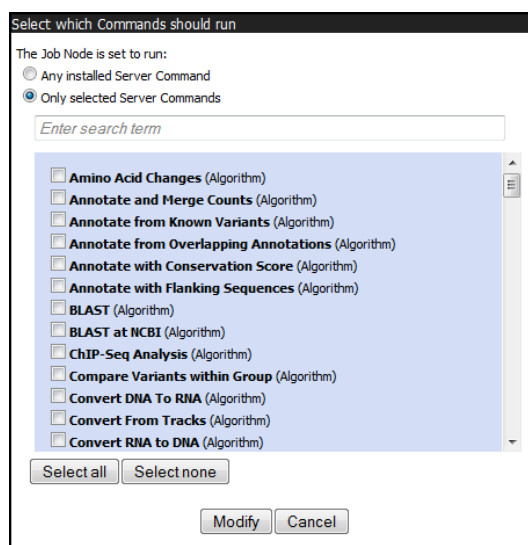

Figure 6.4: Select Server Commands to run on the job node.
- Optionally, click on the button labeled "Manage Job Types" to specify the types of jobs that can be run on each node. See figure 6.4. The default is "Any installed Server Command". If you choose instead "Only selected Server Commands", a search field and a list of all server command names and types will appear. The search field can be used to narrow down the server commands by name or type. Only the tools selected can then be run on that particular job node. Click on the button labeled **Modify** when you are done.